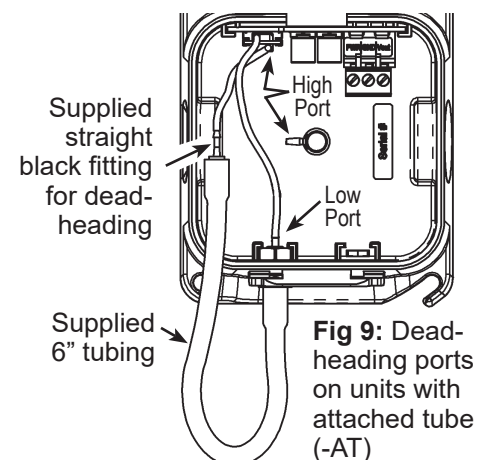

Fig 9: Dead-heading ports on units with attached tube (-AT)
3. Disconnect the short clear tubing from the 90° black high pressure Attached Tube fitting with your fingers (Fig 9). A pliers may cut the tubing.
4. Connect the clear tubing to the supplied, straight black fitting on the 6" tubing (Fig 9). Do not kink the tubing.